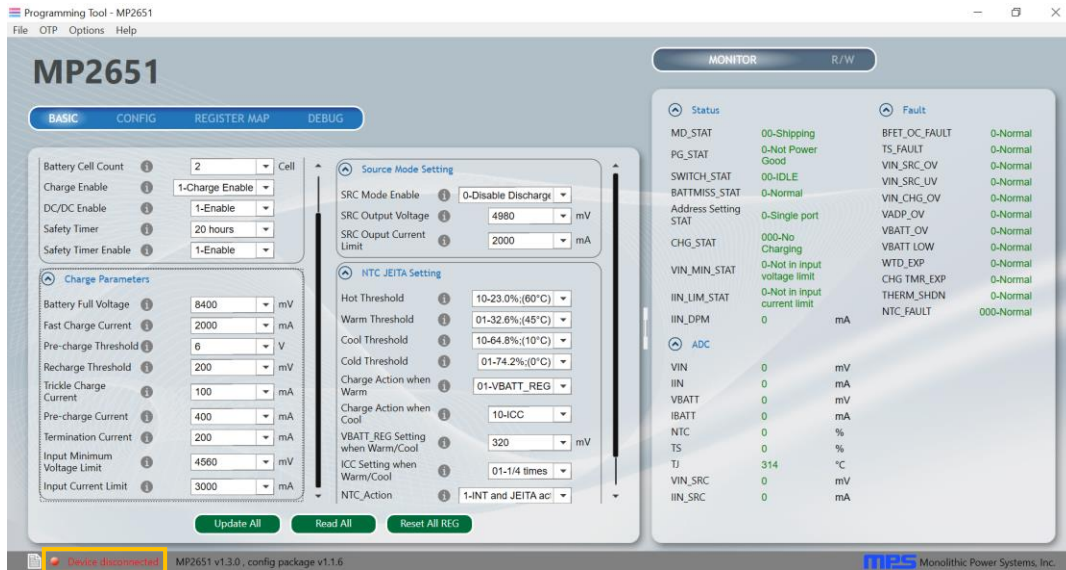

Figure 8: Warning Indicates Unsuccessful Connection (Evaluation Board Not Connected)
- If the application shows “Device disconnected,” this means that the evaluation board is not connected correctly (see Figure 8 on page 11).